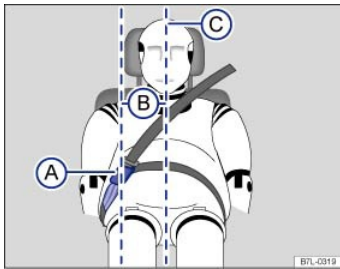

Fig. 61 Positioning of the safety belt extender.
Key to ⇒ Fig. 61 :
- Never use a safety belt extender if the distance (B) between the front edge of the safety belt extender buckle (A) and the centerline of the person using the safety belt extender ⇒ *Fig. 61* is less than 6 inches (15 cm).